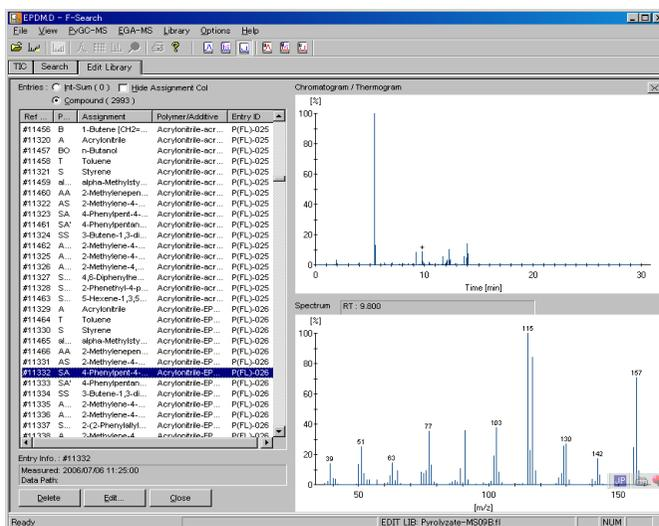

Fig. 5-38 Viewing and editing user library data
- (1) From the menu, select [Edit Existing Entry...] or [View Existing Entry...] (If you use a protected library, you can only view the library data). The list of entries, shown in Fig. 5-38, will be displayed.
- (2) If the spectra stored in the library are (1) mass spectra created from GC chromatograms or from thermograms obtained via the evolved gas technique, a list of entries will be displayed by selecting [Compound]. (2) if the spectra stored in the library are INT-SUM mass spectra created using the integration-summation from a pyrogram, the entry list is displayed by selecting [Int-Sum].
- (3) To edit entries stored in the library, click [Edit]. Selecting [Advanced] displays the analytical conditions, while clicking [Edit Default..] allows you to edit the analytical conditions. See sections 5.6.2 and 5.6.3.
- (4) To delete entries stored in the library, select the entry and click [Delete].